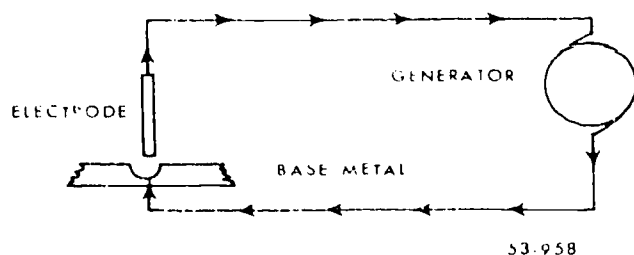

Figure 1-1. Arc welding circuit.
**Circuit.** An electric current cannot flow without a complete conducting path. This path is called a *circuit*. In arc welding, this circuit is made up of the welding leads (one attached to the electrode and the other, to the base metal), electrode, and arc (between the electrode and the base metal), as shown in figure 1-1.